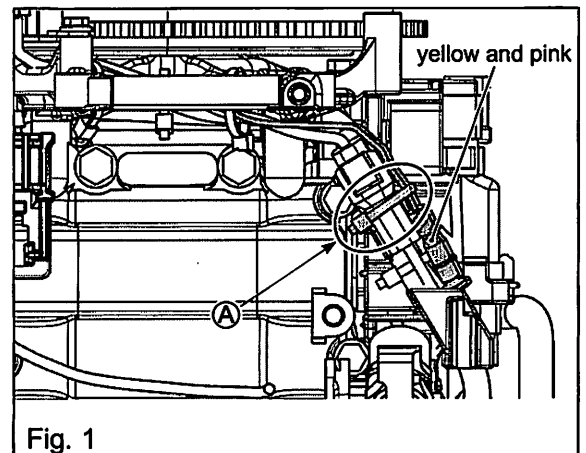

Fig. 1
8. Cut the parts holder clamp (A), and take out the wires (yellow and pink) of the stator coil as shown in Fig. 1.